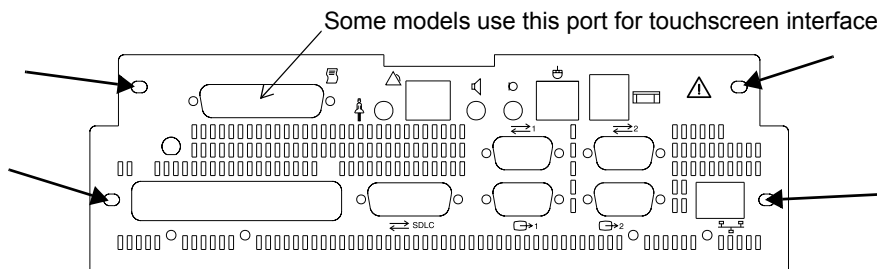

Figure 4-11: Screw placement for drawer assembly
2. Remove the screws, as identified by the arrows in *Figure 4-11*, that attach the rear panel to the monitor.